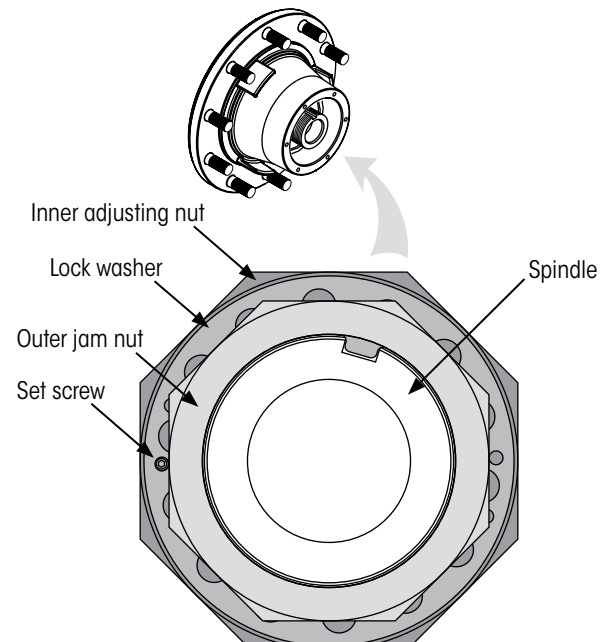
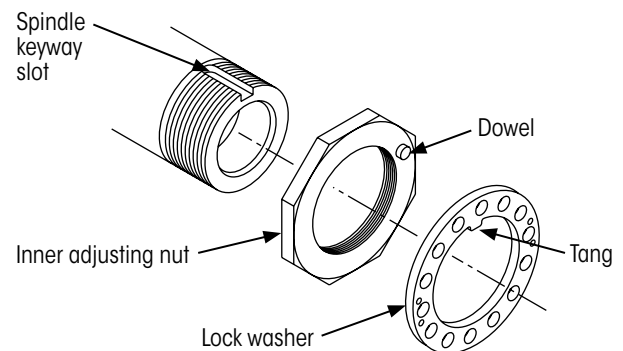
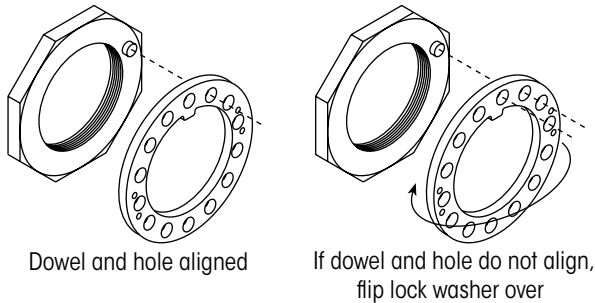

Figure 15: Three-piece nut system components
Figure 16: Adjusting nut and lock washer installation
Figure 17: Align adjusting nut dowel with hole in lock washer
The three-piece spindle nut system (Figure 15 on page 15) includes an inner adjusting nut, lock washer, inner jam nut and set screw.
1. **Install** inner adjusting nut (Figure 16) on spindle, dowel side out, and tighten to 200 ft. lbs. (271 Nm) of torque while rotating wheel.
6. **Install** lock washer (Figure 16). Ensure lock washer tang fits in the spindle keyway slot and inner adjusting nut dowel fits in one of the holes in the lock washer. If this alignment cannot be achieved, remove the lock washer, flip it over and reinstall it on spindle (Figure 17).
8. **Install** outer jam nut (Figure 15).
- i. **Remove** outer jam nut (Figure 15).
NOTE: If a smaller tightening increment is desired, remove lock washer from the spindle, flip it over, reinstall it on the spindle and tighten inner nut so its dowel aligns with the next alignment hole in the lock washer (Figure 17).
NOTE: If a smaller loosening increment is desired, remove lock washer from spindle, flip it over, reinstall it on spindle and loosen inner adjusting nut so its dowel aligns with the previous alignment hole in lock washer (Figure 17).
in lock washer (Figure 15). Set screw must contact inner adjusting nut. Tighten to 18 ± 2 in. lbs. (2.0 ± 0.0 Nm) of torque.
1. **Ensure** lock washer is properly positioned and flush with inner adjusting nut at dowel pin (Figure 15 and Figure 17).